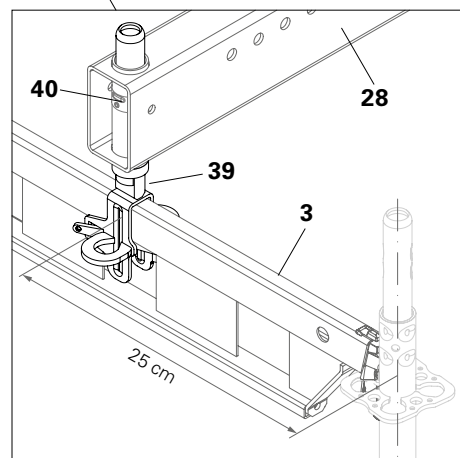

Fig. A8.02b
4. Secure the ledger (**28**) and ledger-to-ledger coupler (**39**) with a locking pin (**40**). (Fig. A8.02b)